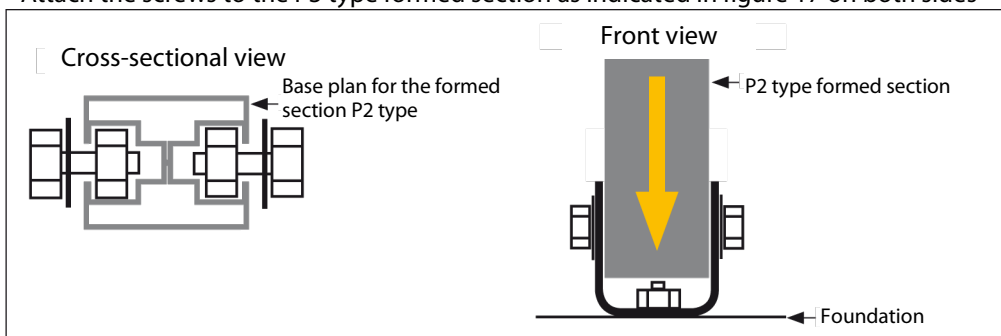

Figure 17
- Attach the screws to the P3 type formed section as indicated in figure 17 on both sides